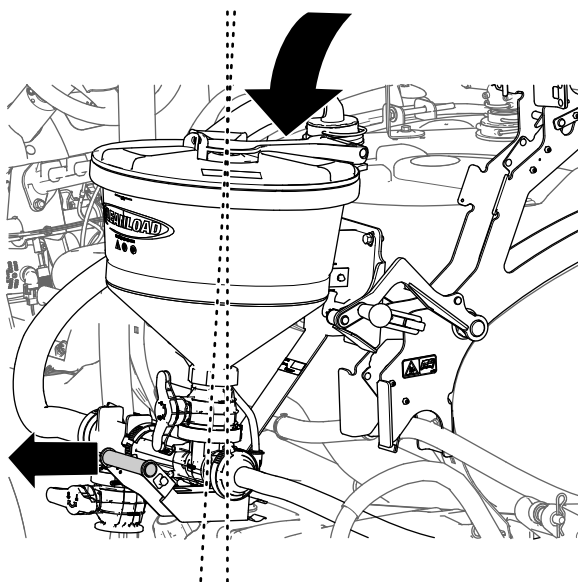

Figure 40
2. Raise the educator while holding the educator handle outward slightly (Figure 40).